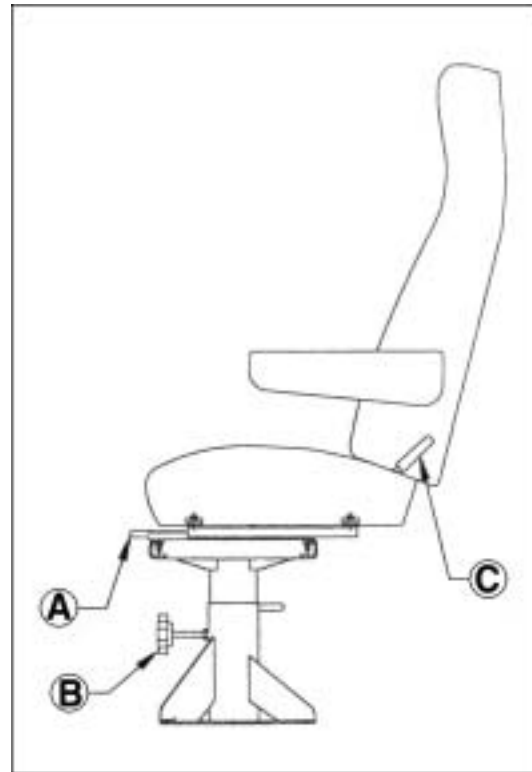

Figure 2—Manually-Operated Driver's Seat
To adjust seat position forward or backward, hold lever (**Figure 2, A**) to the left.
1. Loosen handle in front (**Figure 2, B**).
To adjust the back angle, lean forward slightly to remove pressure from seat back. Hold the handle (**Figure 2, C**) rearward to adjust to any position within the seat's range.